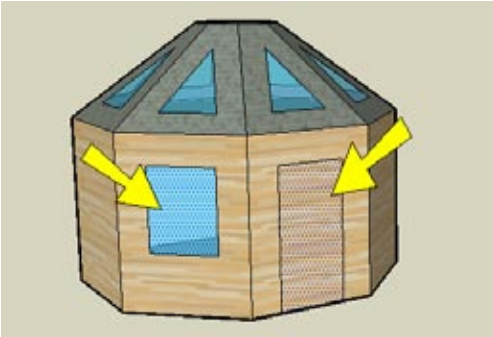

Figure 1-51
- Select both of these faces (Figure 1-51).